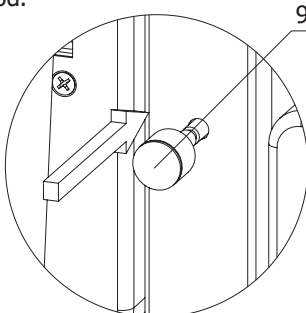
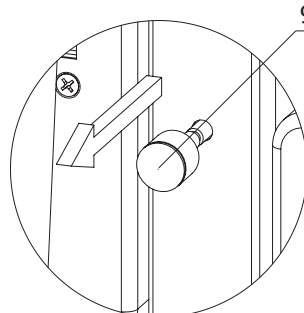

Figure 5a.
Figure 5b.
Regulation of the tertiary air is performed via the secondary air handle (Fig. 1, item 9). Tertiary air is used for additional combustion and for increasing the efficiency of the stove. The quality of combustion depends on the correct adjustment of the amount of tertiary air in the firebox and is optimal when the regulator is open (Figure 5a). We recommend closing the tertiary air regulator (Figure 5b) only when you wish to preserve embers for a longer period.
Combined operation - To enable simultaneous baking in the oven, cooking on the hotplate, and heating the room, set the stove mode handle to the position shown in Fig. 5b and adjust the draft to a medium level by turning the primary air handle (Fig. 1, item 11) on the ash drawer door.